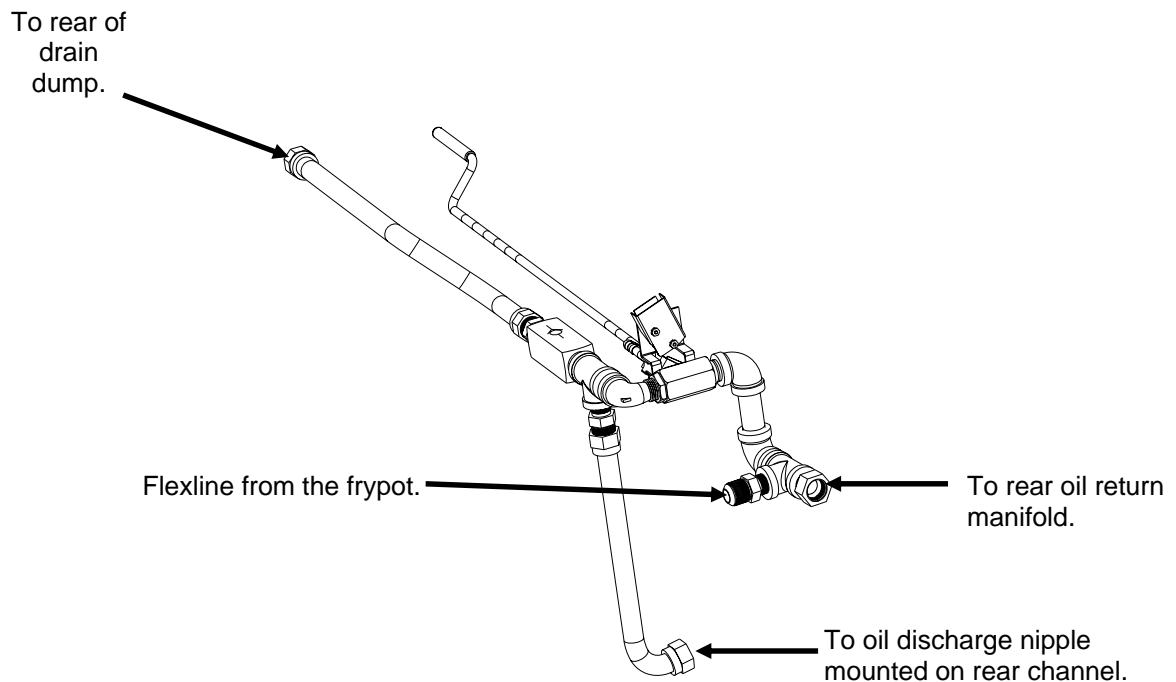

Figure 6: Rear View
15. Attach the flexline from the oil return port on the frypot to the "T" connection in Figure 6.